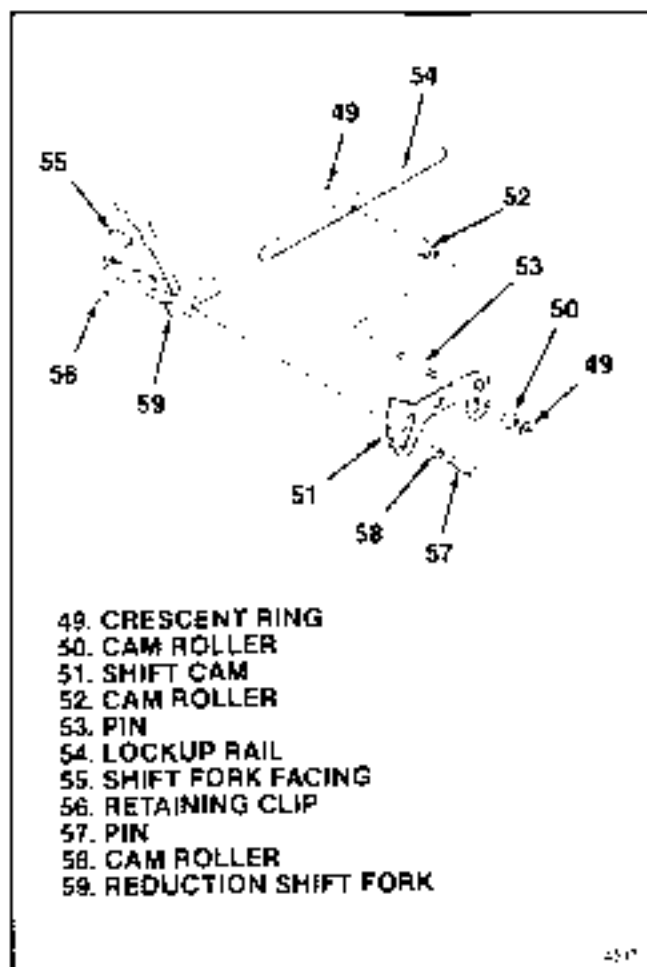

Figure 5-7. Reduction Shift Fork, Rail and Cam Parts
**5-8. ASSEMBLY OF REDUCTION SHIFT FORK, RAIL AND CAM.** On work bench, assemble parts as follows (see figure 5-7):
a. Insert pin (57) through cam roller (58) and into reduction shift fork (59). Attach with retaining clip (56). Make sure that cam roller turns freely.
b. Install two fork springs (55) on reduction shift fork (59).
c. Install one crescent ring (48) in groove at one end of pin (57). Insert pin through hole in lost-clip rail (54). Install stepped cam roller (52) over free end of pin (57) and position assembly on work bench with roller pointing up.
d. Hold shift cam (51) over the roller-pinion assembly (52) through (54) in the position shown in figure 5-7. Make sure that the side of the cam with the raised hub reinforcement is up. Lower cam into position with the larger cam track going over roller (52). Install roller (50) and remaining crescent ring (49).